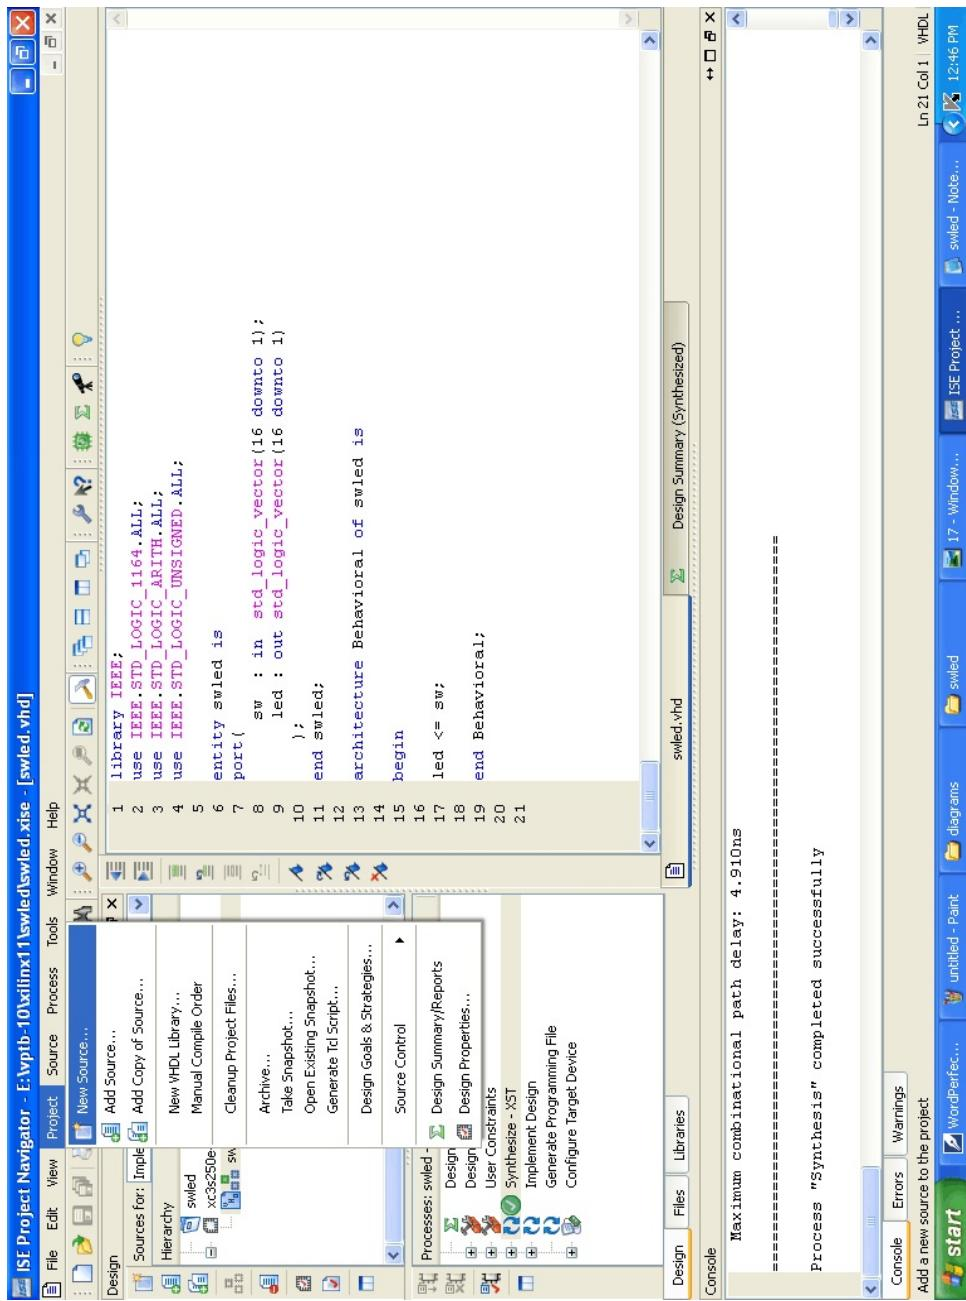
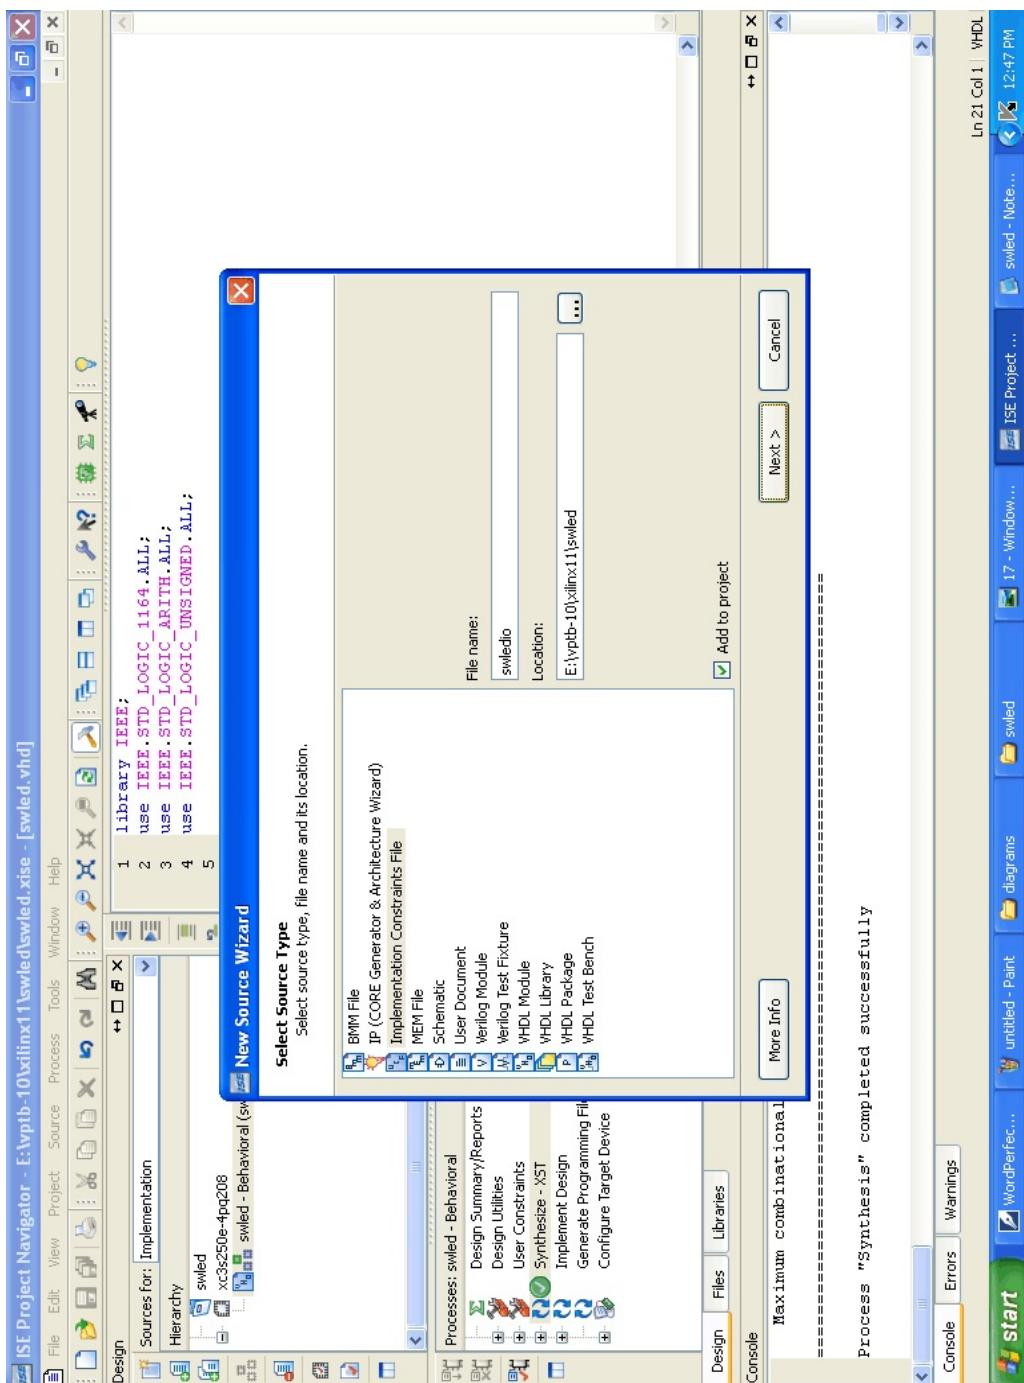

Figure-19
Figure-20
6. After synthesis is completed successfully, select Project menu > click New Source (refer Figure-19). Then select Implementation Constraints File, give the filename in the appropriate field click Next and Finish (refer Figure-20,21).